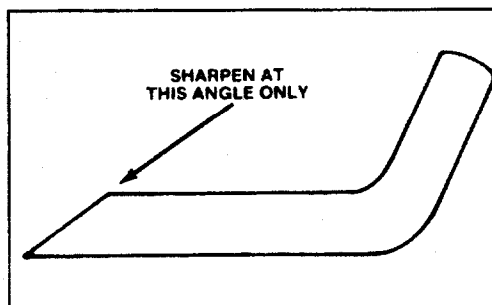

Figure 25
6. SHARPENING BLADE—Using a file, sharpen top side of blade (side facing mower housing) and maintain original cutting angle (Fig. 25). The blade will remain balanced if the same amount of material is removed from both cutting edges.